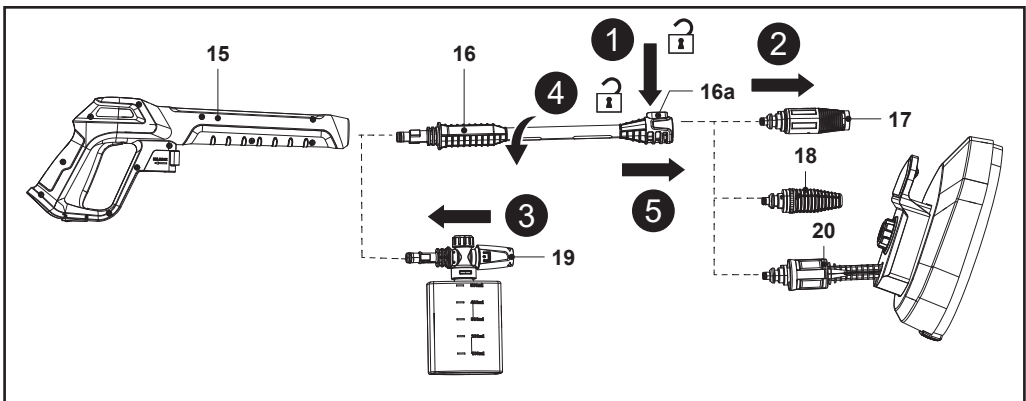

Fig. 4
**i** **NOTE:** When two components are connected correctly, they cannot be separated by directly pulling them out. All spray gun accessories must be inserted into the spray gun (15) for proper use.
4. To disconnect the nozzle, press the lock button (16a) and keep it in place, then pull the assembled nozzle out (Fig. 4, steps 1, 2). Reinstall a required nozzle.
5. To disconnect the extension lance (16) or detergent bottle nozzle (19), push and turn the extension lance (16) counterclockwise to remove it (Fig. 4, steps 3, 4, 5). Reinstall a required spray gun accessory.